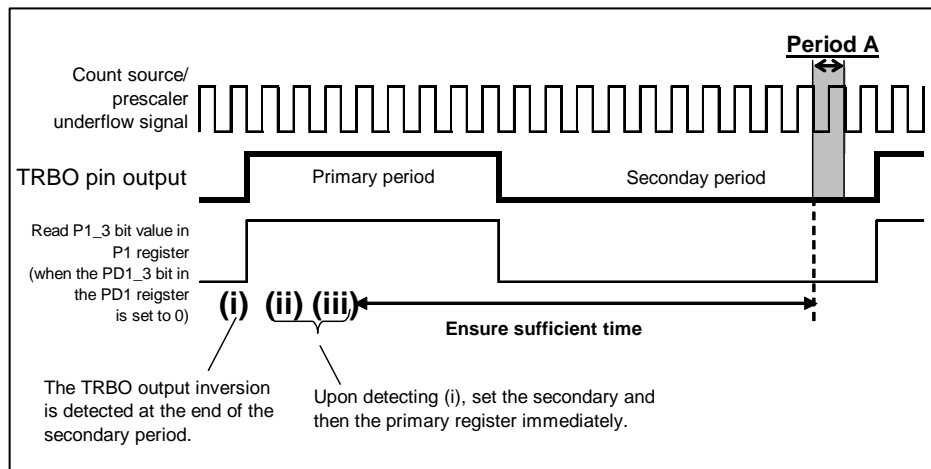

Figure 8 Workaround Example 2 When TRBO Output Value is Read
Workaround example (2): As shown in Figure 8, detect the start of the primary period by the TRBO pin output level and write to registers TRBSC and TRBPR. If the port 1_3 bit value is read after the port 1_3 direction bit (PD1_3 bit) is set to 0 (input), the read value indicates the TRBO pin output value.